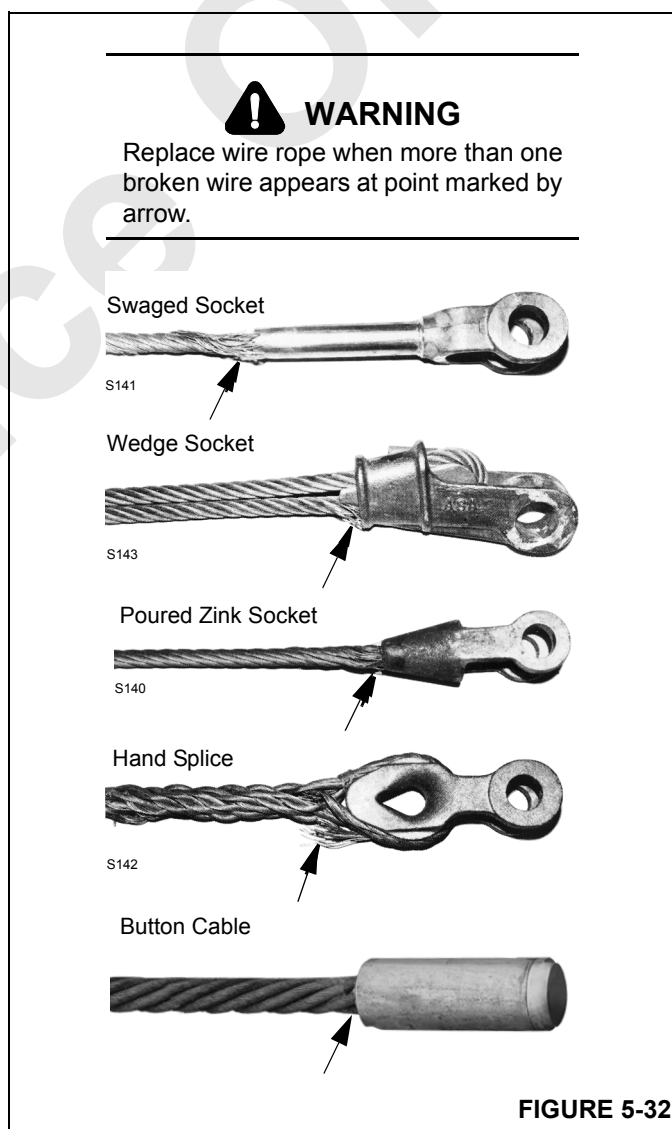

FIGURE 5-32
- Standing Ropes (pendants) — more than two broken wires in one lay length in sections beyond the end attachment, or more than one broken wire at the end attachment (see Figure 5-32).